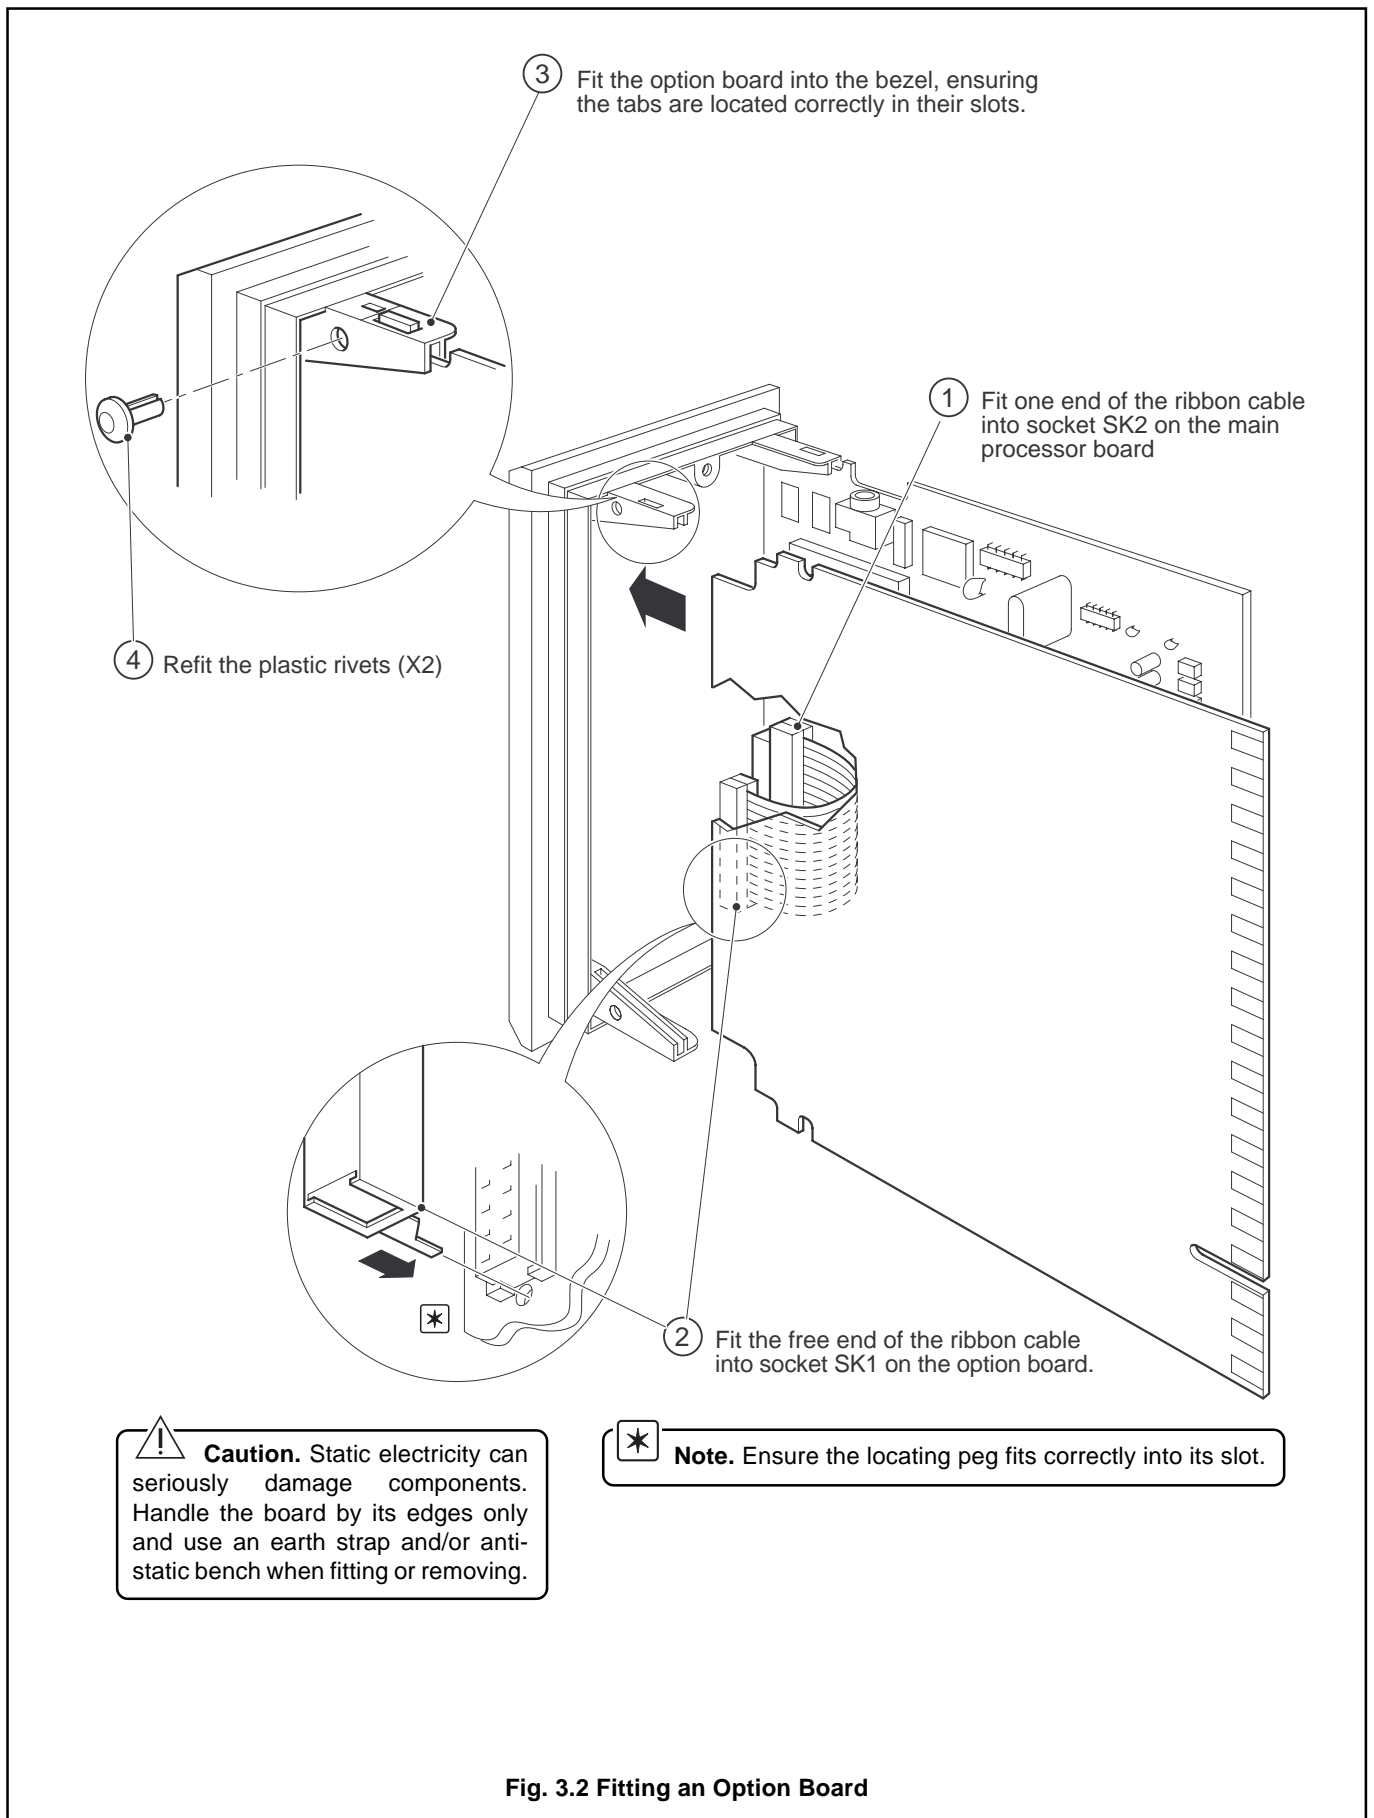

Fig. 3.2 Fitting an Option Board
- d) Fit the option board – see Fig. 3.2